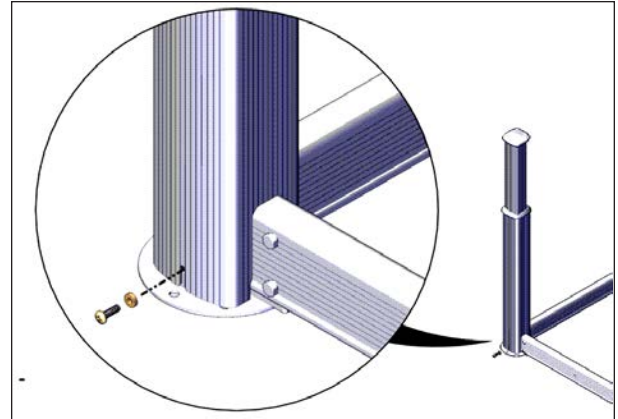

FIGURE 93: SLEEVE BOTTOM SCREW
1. Remove the lower sleeve screw. The screw is visible when facing the post see Figure 93.